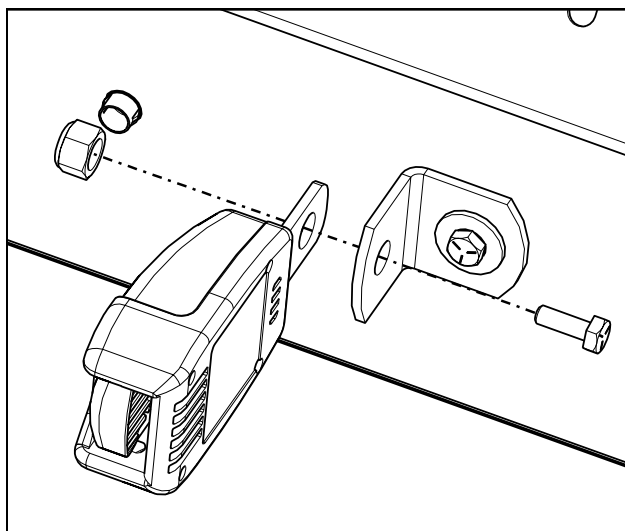

Fig. 11.6: Receiver Latch
- 11.6 Secure receiver latch to mounting bracket (9SB2) with (1) 7/16-14 x 1" hex head bolt and (1) 7/16-14 lock nut. Tighten hardware to 50 ft.-lbs. (67.8 N-m). **(Figure 11.6)**